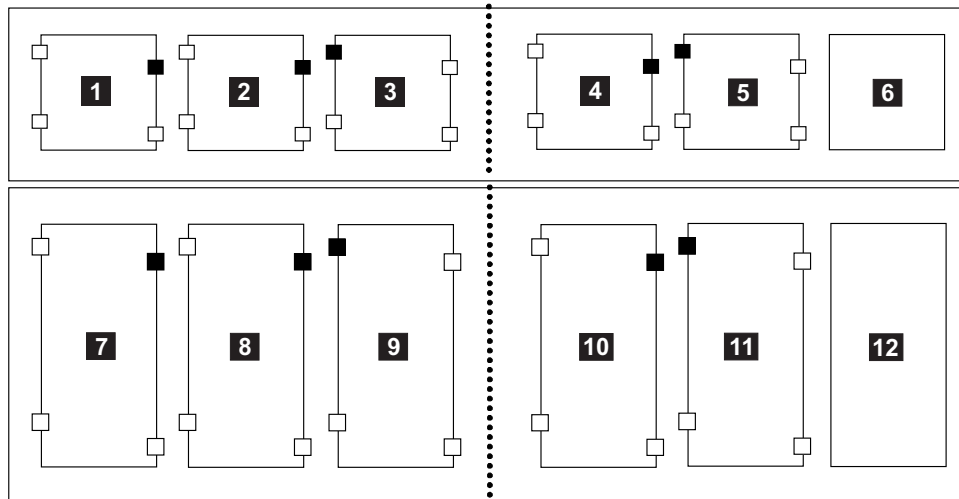

Figure 8-39. Correct fiducial placement
- a. Verify the correct position for the fiducial on the storage column by referring to the small black squares on the larger rectangles in Figure 8-39 on page 8-43.